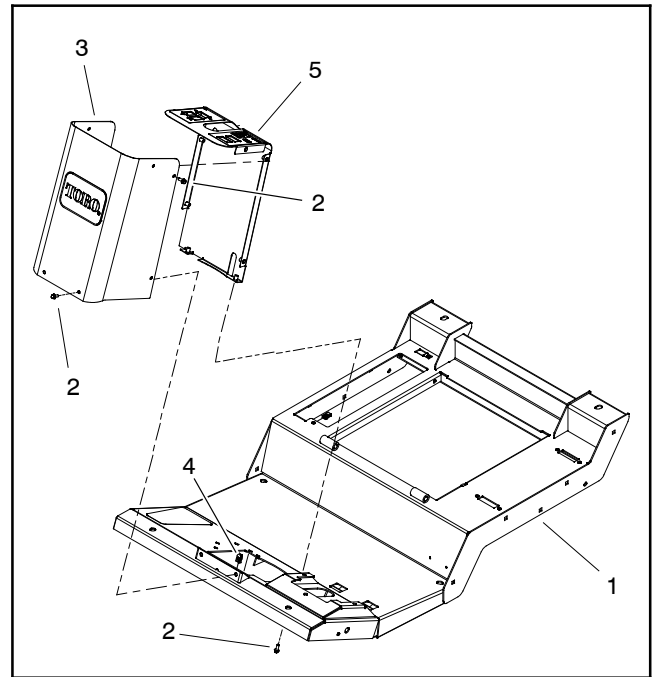

Figure 2
2. Remove steering tower covers to access steering tower components (Fig. 2).